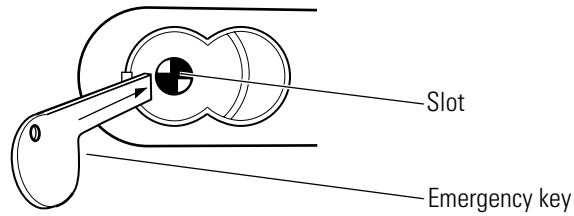

Figure 3.36 Inserting the emergency key
2. Insert the blade of the emergency key into the slot, as shown in Figure 3.36.